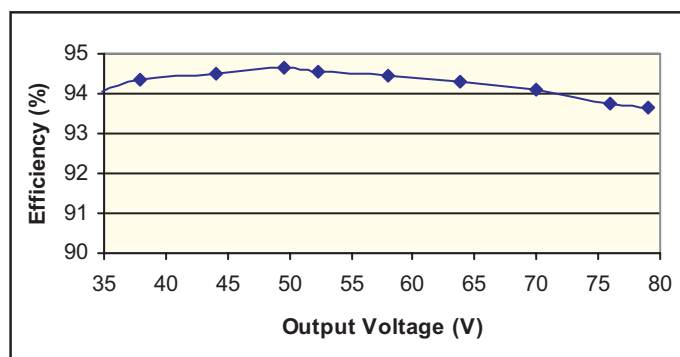
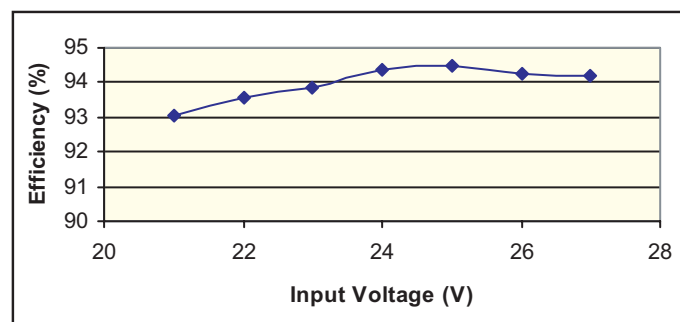

Fig. 1. Efficiency vs. Output Voltage
Fig. 2. Efficiency vs. Input Voltage
1. Efficiency: The efficiency of the converter at various LED string voltages are shown in Fig.1 (measured at the nominal input voltage of 24V). Fig.2 shows the full load efficiency of the converter at varying input voltages. The minimum efficiency of 93% for the converter occurs at 21V input and full load output.